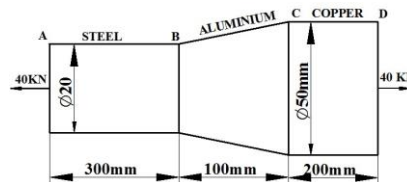

Figure 4
20. A stepped bar subjected to an external loading as shown in **Figure 4**, Calculate the change in the length of the bar. Take $E=200\text{Gpa}$ for Steel $E=70\text{GPa}$ for Aluminum and $E=100\text{GPa}$ for Copper (Dec 07/Jan 08)